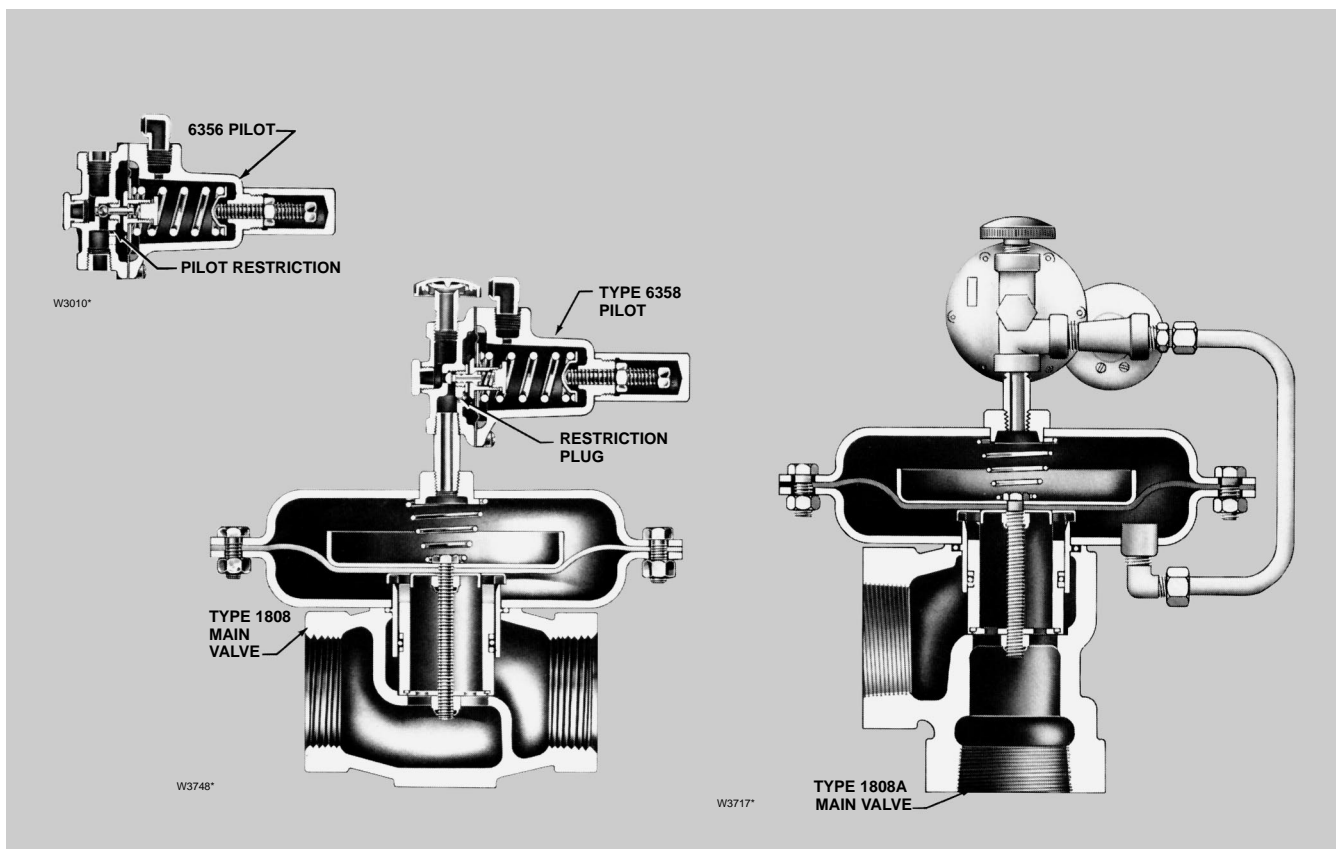
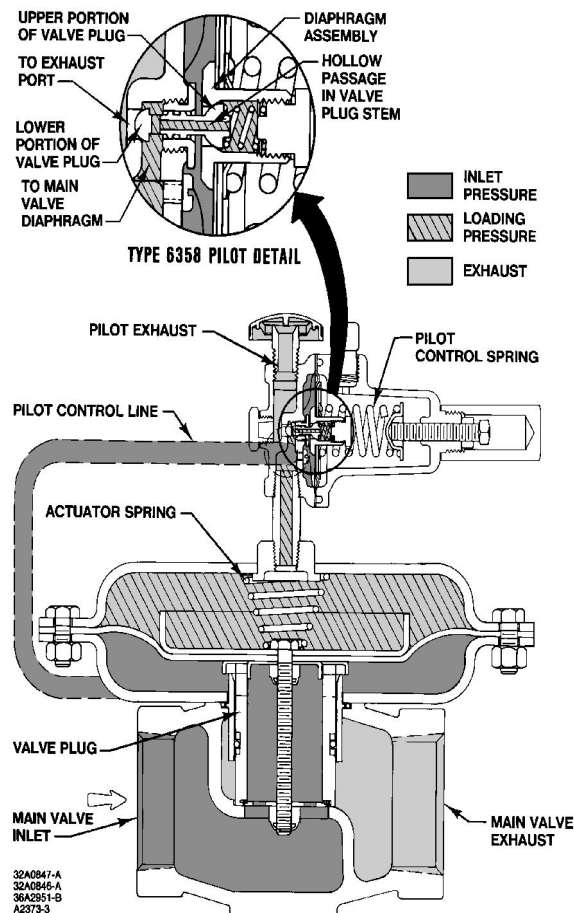

Figure 2. Sectional Details
Figure 4. Schematic of Type 1808 Pilot-Operated Backpressure Regulator or Relief Valve
- **Versatility in Both Liquid and Gas Service**—Pilot exhaust port and standard tapped pilot spring case (figure 2) each come with removable vent for remote piping when necessary. The standard tapped pilot spring case comes complete with a gasketed closing cap that permits pressure loading for remote pneumatic adjustment of the set pressure.
Refer to figure 4, which shows a unit with a Type 6358 pilot. The operation of the Type 6356 and 6358 pilots is similar, except that the Type 6356 pilot has a restriction (figure 2) to allow inlet pressure into the main valve above the diaphragm.